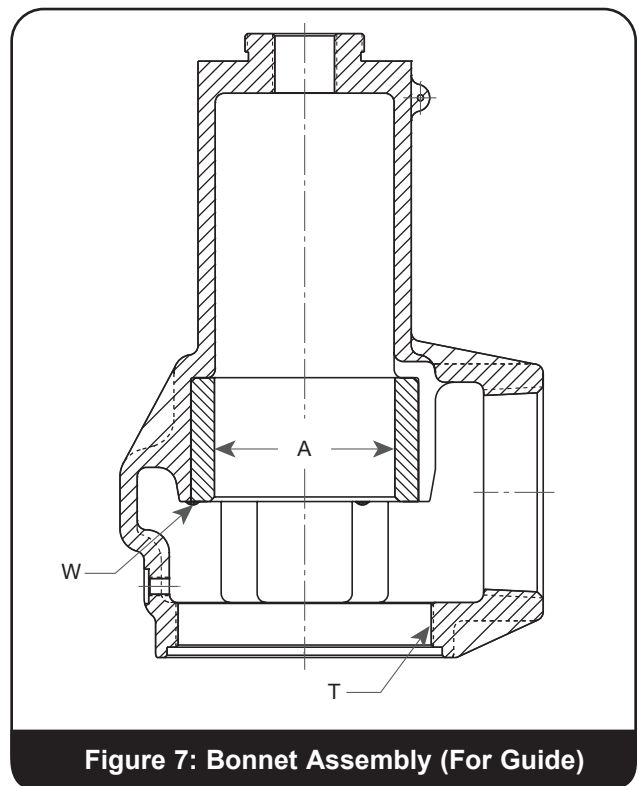

Figure 7: Bonnet Assembly (For Guide)
5. Guide Replacement Criteria, Figure 7 and Table 3